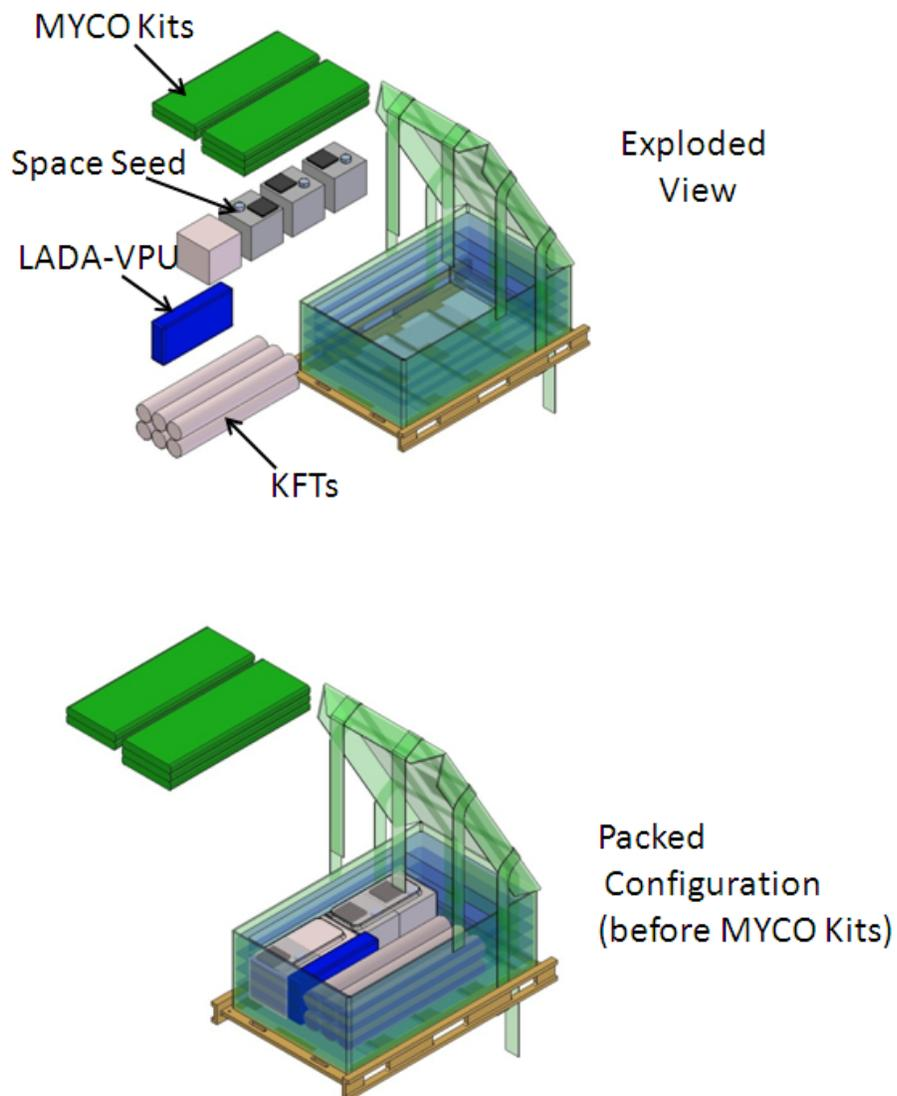

Figure 1. MERLIN Descent Packing Configuration.
- 4.6 Remove samples from Double Coldbag and pack in MERLIN Pouch Assembly. Refer to Figure 1.